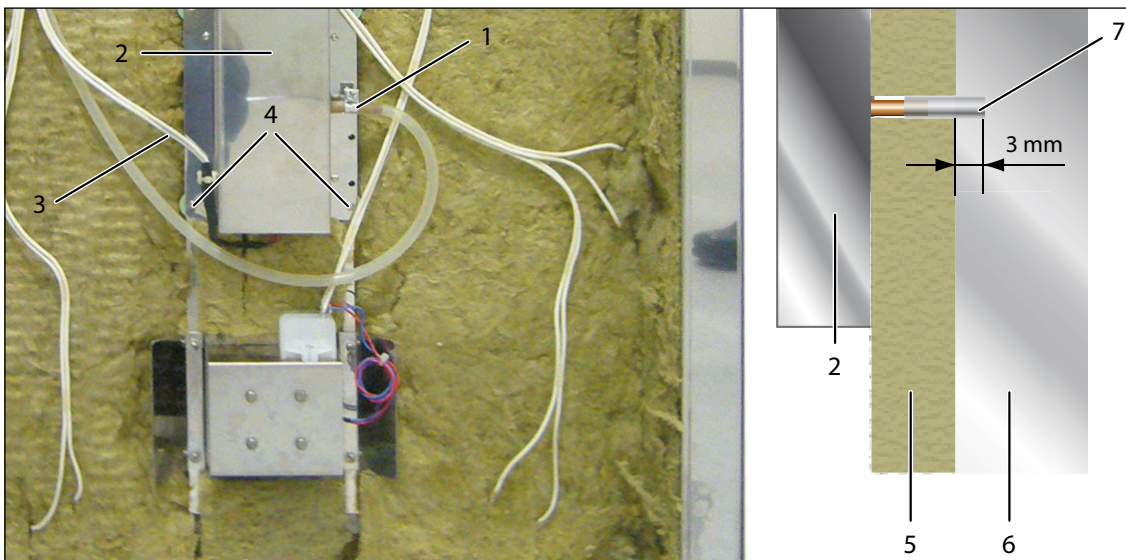

Fig. 29 Replacing steam generator
4. Loosen tube (1) on the steam generator (2) (Fig. 29).
5. Undo the plug connector of the steam generator (3) in the control unit on the top of the appliance.
6. Unscrew the steam generator (4 screws) (4).
8. Put a new steam generator into place. When doing this, make sure that the copper pipe with the attached tube on the rear of the steam generator fits through the opening into the interior of the appliance (7). Screw the steam generator tight.
9. In the interior of the appliance, cut back the tube of the steam generator coming out of the rear to about 3 mm in length (7). Re-attach the fan shaft.
11. Connect the water tube on the right of the steam generator (1).